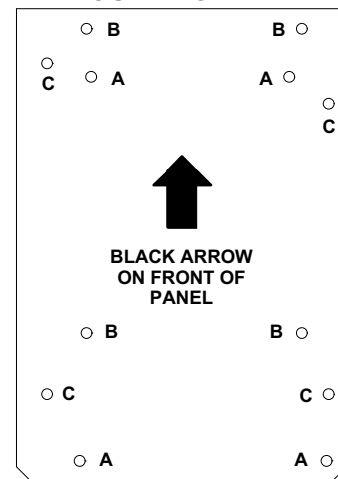

FIGURE 1
- 5 - Position the provided mounting panel so that the black arrow on the front of the panel is pointing up. Position the replacement SureLight ignition control over the holes marked "A" in figure 1. Insert the replacement control stand-off fasteners (already in the control) into the holes in the mounting panel. Snap the replacement SureLight® ignition control onto the mounting panel.
- 6 - Insert the four provided stand-off fasteners into the back of the mounting panel in the holes marked "B" in figure 1. Snap the mounting panel (including new control) into place in the control box.
4 - When replacing original 63K8901 control in G24M-10 or G27M-1 in upflow or horizontal applications and G27M-100-1 or -120-1 in downflow applications - - Look at the existing control holes as if the unit were installed in the upflow position. Make a mark 1" to the right of each of the existing mounting holes. Position the provided mounting panel over these marks, so that the holes marked "C" in figure 1 are over the marks. **Use the mounting panel as a template only** to drill 3/16" holes through each of
the holes marked "A." Install the replacement control in the freshly drilled holes in the blower access panel. Use aluminum tape to seal the unused holes. **When replacing original 63K8901 control in G24M-10, G27M-60-1 or G27M-75-1 in downflow applications** - Look at the existing control holes as if the unit were installed in the upflow position. Make a mark 5/8" ABOVE each of the existing mounting holes. Position the provided mounting panel over these marks, so that the holes marked "C" in figure 1 are over the marks. **Use the mounting panel as a template only** to drill 3/16" holes through each of the holes marked "A." Install the replacement control in the freshly drilled holes in the blower access panel. Use aluminum tape to seal the unused holes.
Position the provided mounting panel so that the black arrow on the front of the panel is pointing up. Position the replacement SureLight® ignition control over the holes marked "A" in figure 1. Insert the replacement control stand-off fasteners into the holes in the mounting panel.
- 5 - **80UHG, 90UGF, G23, G26, GHR26, G32, GHR32, G40, G41, G50, G51, G60 and G61 units** - Insert the four provided stand-off fasteners into the back of the mounting panel in the holes marked "B" in figure 1.
- 80MGF, G24M and G27M units** - Insert the four provided stand-off fasteners into the back of the mounting panel into the holes marked "C" in figure 1.